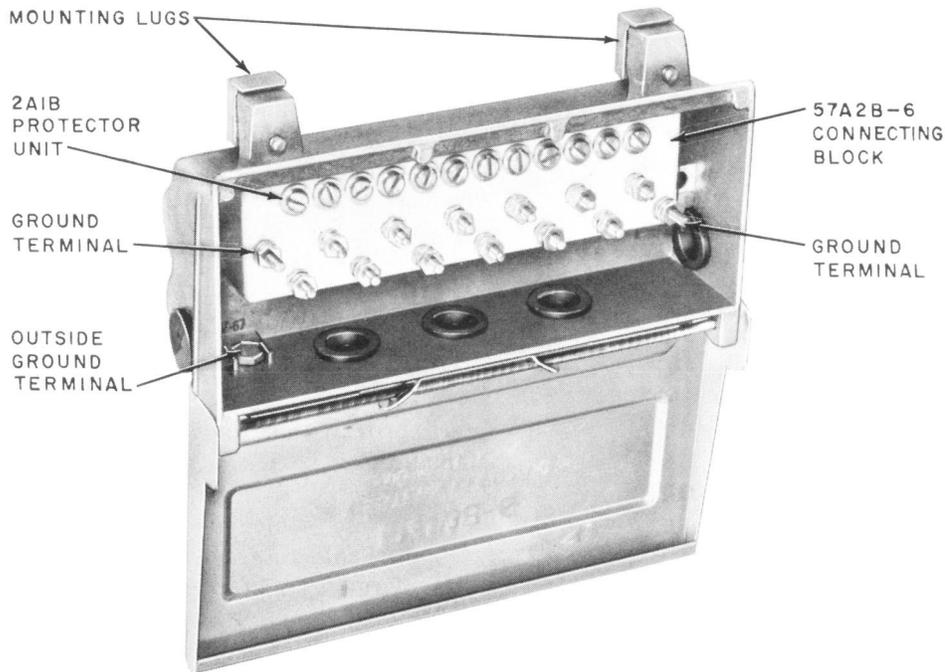
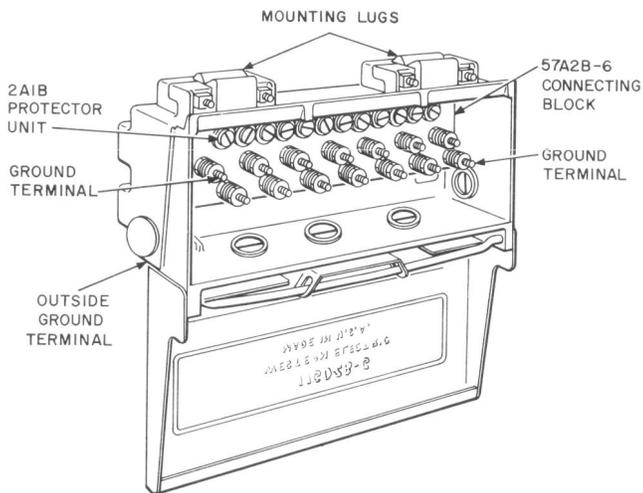

Fig. 1—116D3B-6 Protector
Fig. 2—116D2B-6 Protector
2.02 The 116D3B-6 Protector shown in Fig. 1 consists of an aluminum housing containing a 57A2B-6 Connecting Block, equipped with six pairs of binding posts, two terminals for ground connections, and twelve 2A1B Protector Units. A ground terminal is also located on the outside of the box. The 116D2B-6 Protector is similar to the 116D3B-6 except for the strand mounting lugs (Fig. 2).